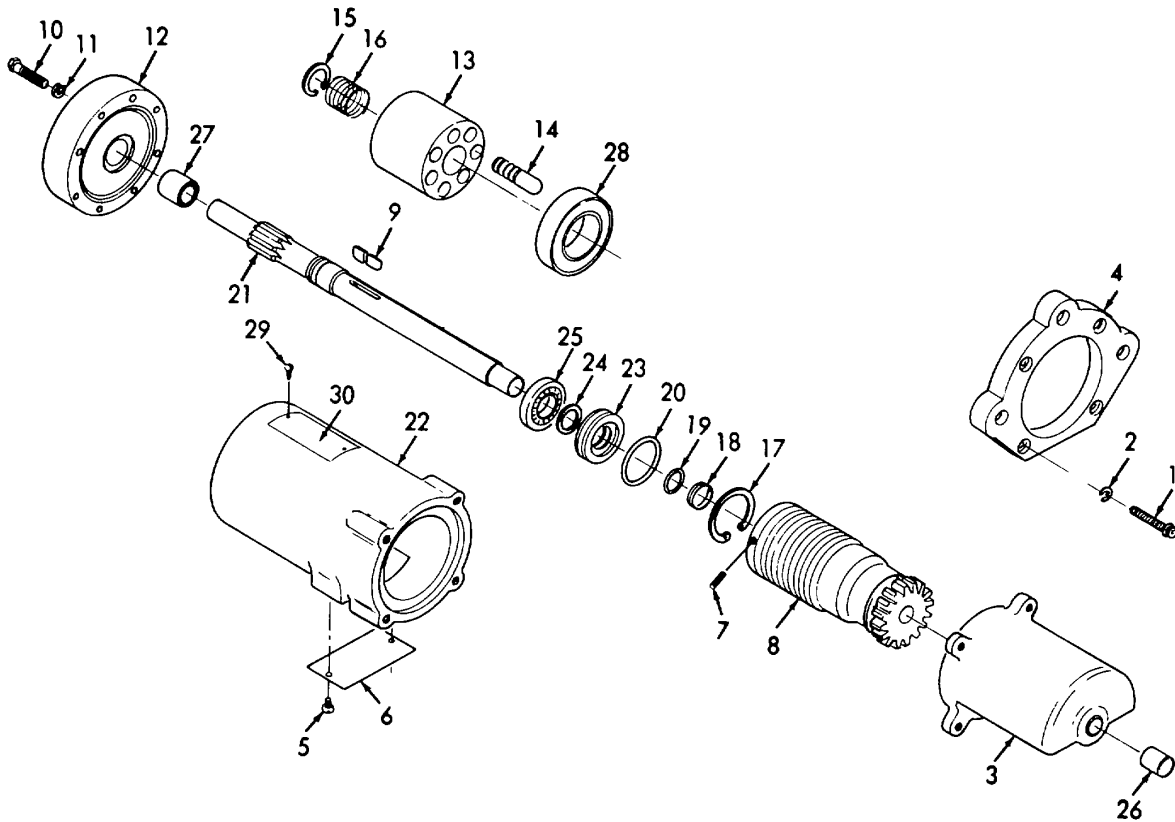

Figure 3-9. Cranking Motor, Disassembly/Reassembly.
**3-11. CRANKING MOTOR- Continued.**a. Disassembly. (Refer to figure 3-9).
- (1) Clamp cranking motor in a vise.
- (2) Remove four screws (1), four lockwashers (2), and remove housing (3) and flange (4).
- (3) Remove two screws (5) and plate (6).
- (4) Insert a flat tip screwdriver in housing opening and move anchor plate of starting drive (8) toward the pinion gear to uncover setscrew (7). Loosen setscrew (7) and slide starting drive (8) off shaft (21). Remove two keys (9) from shaft.
- (1) Refer to figure 3-9 and install plate (30) and secure with four drive screws (29).
- (2) Using an arbor press, press bearings (28), (27), and (26) in their respective housings.
- (3) Using an arbor press, press bearing (25) on shaft (21). Install spiral ring (24). Press shaft (21) into housing (22).